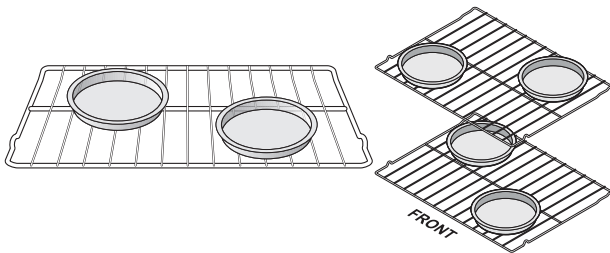

Figure 4: Pan arrangements for single and multiple rack
- Use single rack baking for best results and position the rack in position 2. (Figure 4).
- When baking cakes using two racks, position cake pans as shown in Figure 4. Allow at least 2 to 4 inches (5 to 10 cm) space between bakeware for proper air circulation.